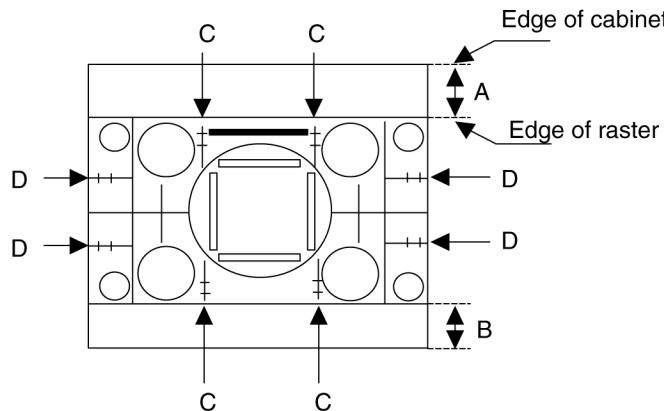

Fig 25
Adjust V-Amp(1125i\_50) so that C=90 ± 2.5(%) in the Fig.25
1. Adjust H-Amp(1125i\_50) so that D=92.5 ± 2.5(%) in the Fig.25